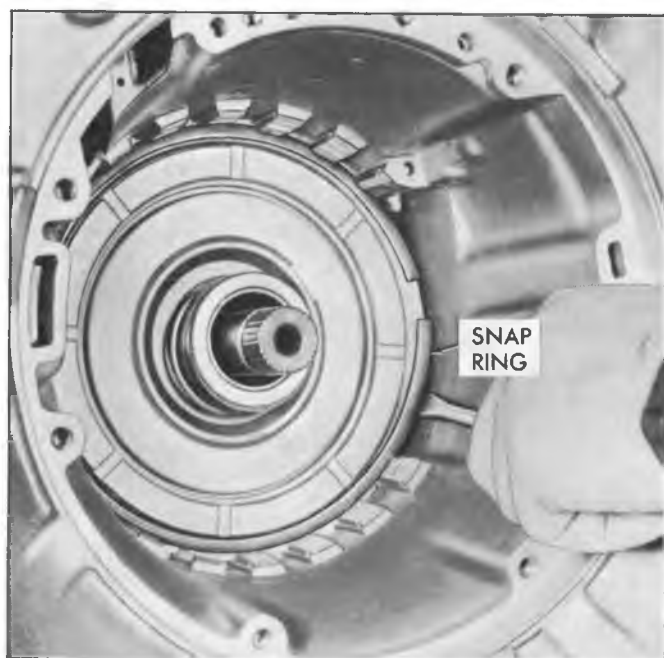

Fig. 35T--Removing Center Support to Case Retaining Snap Ring
13. Remove center support to case retaining snap ring (fig. 35T).